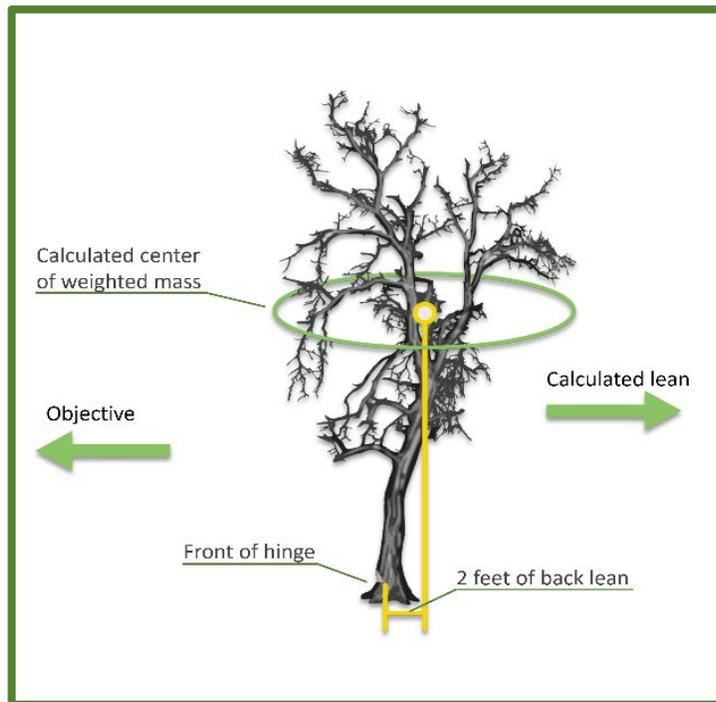

Figure 2.3.14—Calculated lean.
- **Calculated lean** is the amount of front-to-back and/or side-to-side lean (expressed in feet) relative to the objective (figure 2.3.14). It is used to build the cutting and wedging plans that will place the tree into the objective.